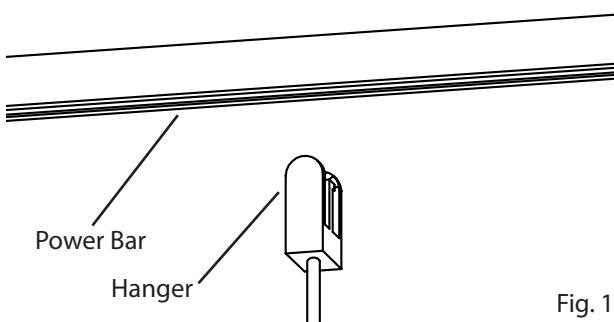

Fig. 1
1. Align **Hanger** with **Power Bar** (Fig. 1) and press down firmly on the top of the Power Bar, while pressing up on the bottom of the Hanger, until the Power Bar clicks into place. (Fig. 2)